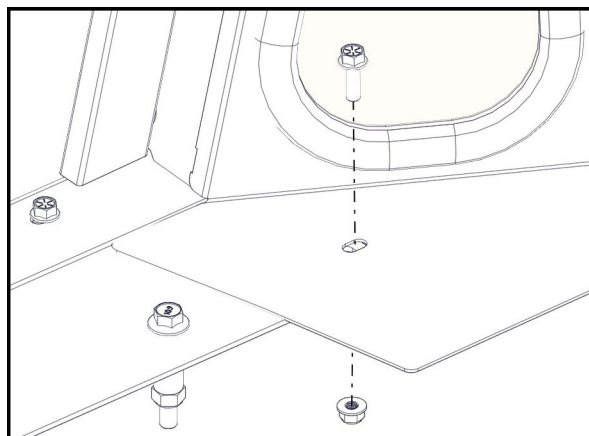

Fig. 12.2 (Cowl – Left Side Inside View)
**12.2** Next, fasten the cowl to the (2) front mounts with bolts and nuts — no plastic washers. See figures 12.2 & 12.2a.